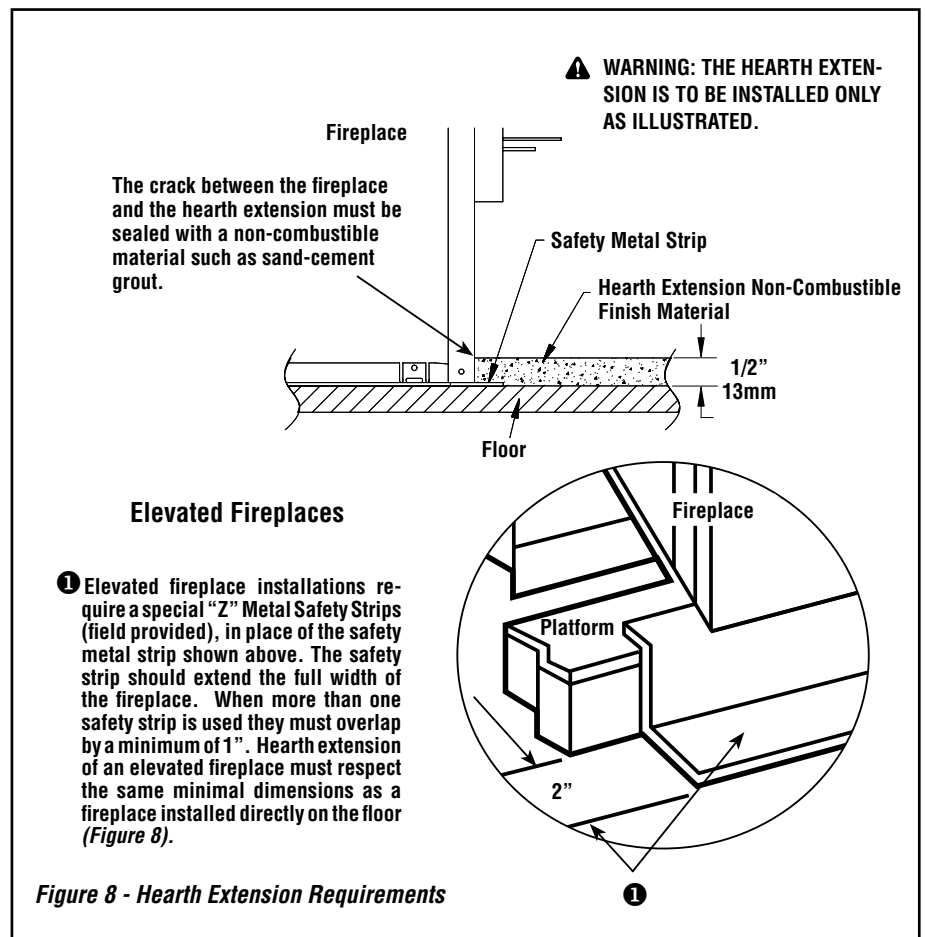

Figure 8 - Hearth Extension Requirements
The construction of the framing, facing, and mantel must be in accordance with the standards and the following illustrations (Figures 8 and 9):
C. Frame the fireplace with vertical studs at the sides of the fireplace running from floor to ceiling (see Figure 8). If combustible facing is to be used, position the studs back, from the front edge of the fireplace (a space that is the thickness of the facing material, so that the facing can be installed flush with the fireplace facing). Frame headers between the vertical studs only as follows:
The fireplace may be installed directly on a combustible floor. The supplied safety metal strip must be positioned as follows: One half under the front of the fireplace and the other half must extend on the floor over which the hearth extension will be built (see Figure 8).